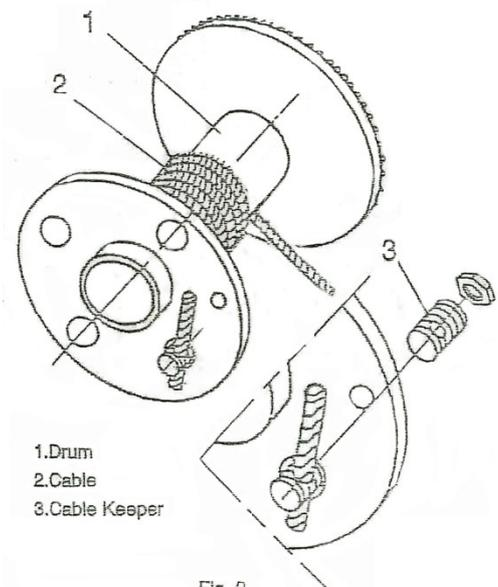

Fig. 2
3. Thread cable through the holes in the drum plate from inside drum and feed into the cable keeper, screw in the nut until the cable is completely tightened (see Fig. 2). In case of hook application, attach the other end of cable to suitable hook having safety catch, clamp the cable with suitable clip. The breaking strength of the hook must be at least 1.5 times of the breaking strength of the cable.